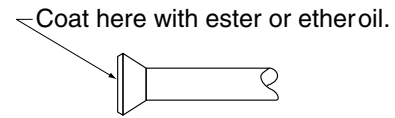

Fig. 15
- When connecting the flare nut, apply ester oil or ether oil to the flare section (inside), and spin 3-4 times before screwing in. (Refer to Fig. 15)